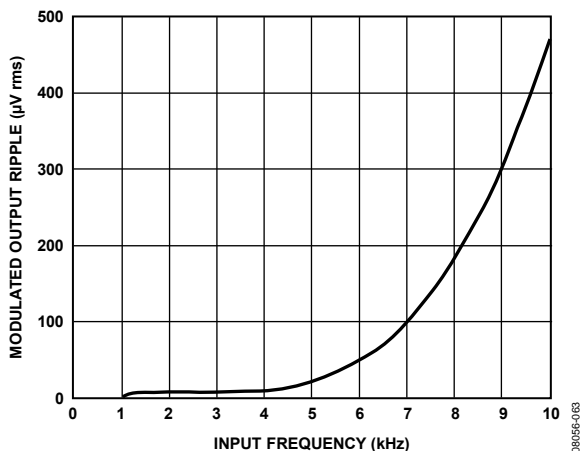

Figure 57. ADA4051-2 Modulated Output Ripple vs. Input Frequency
The remaining voltage ripple is composed of two ingredients. The first ripple's ingredient is due to the residual ripple associated with the initial offset of the G_{m1} . It is proportional to the magnitude of the initial offset and creates a spectrum at the chopping frequency (f_{CHOP}). When the amplifier is configured as a unity gain buffer, this ripple has a typical value of $4.9 \mu\text{V rms}$ and a maximum of $34.7 \mu\text{V rms}$. The second ripple's ingredient is due to the intermodulation between the high frequency input signal and the chopping frequency. It depends on the input frequency (f_{IN}) and creates a spectrum at frequencies equal to the difference between the chopping frequency and the input frequency ($f_{CHOP} - f_{IN}$) and at their summation ($f_{CHOP} + f_{IN}$). The magnitude of the ripple for different input frequencies is shown in Figure 57.
- No affect on the desired input signal as long as its frequency is much lower than the chopping frequency shown in Figure 57